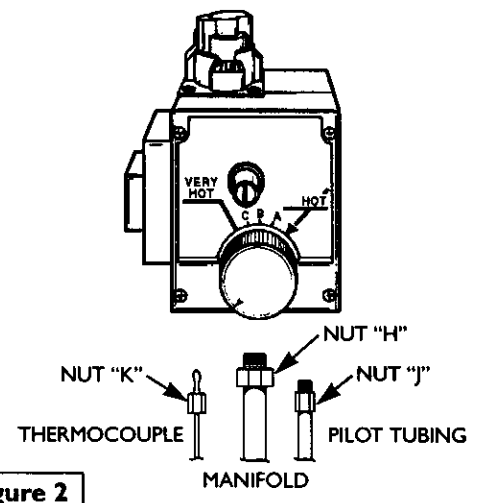
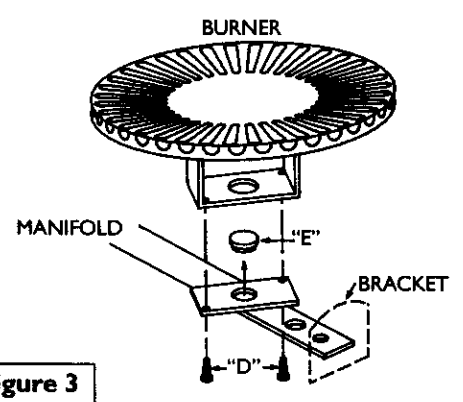

Figure 2
Figure 3
- Step 3. Remove burner assembly from water heater and control by loosening $\frac{3}{4}$ " nut “H” holding burner assembly to control. (See Figure 2, page 17). Loosen pilot tube nut “J” and thermocouple nut “K” at control.
- Step 4. Remove screws “D” disengaging manifold from burner. (See Figure 3, page 17)
- Step 5. Remove orifice “E” (See Figure 3, page 17) using $\frac{3}{8}$ " wrench. Install orifice marked “L.P.” found in the bag into manifold. Tighten securely. Secure burner to manifold with screws “D”.
- Step 7. Make sure all connections are tightened securely, and reinstall burner assembly into water heater. Position end of the manifold inside bracket as shown in Figure 3 on page 17. Reinstall manifold into control and tighten $\frac{3}{4}$ " nut (“H”) securely. Recheck to see that end of manifold is still inside bracket as shown in Figure 3 on page 17. Reinstall pilot tubing and thermocouple into control. (See Figure 2, page 17)
- Step 14. Push in control knob all the way and hold down. Immediately light the pilot with a match. Continue to hold control knob in for about one (1) minute after the pilot is lit. Release knob and it will pop back up. Pilot should remain lit. If it goes out, repeat steps 9 through 12.
- Step 15. Check for gas leaks with only pilot flame burning using a soapy water solution, not a match or open flame. Check for gas leaks at fittings “F” and “G” (See Figure 4, page 17) and at fitting “J” (See Figure 2, page 17).
- Step 19. With a soapy water solution, not a match or open flame, check for gas leaks at gas connection “H”. (See Figure 2, page 17). If gas leak occurs, turn off immediately by shutting off gas cock at inlet to control, or by turning gas control knob (↻) to “PILOT” pushing down and turning to “OFF”. Repair gas leak as necessary, and repeat steps 9 through 19.